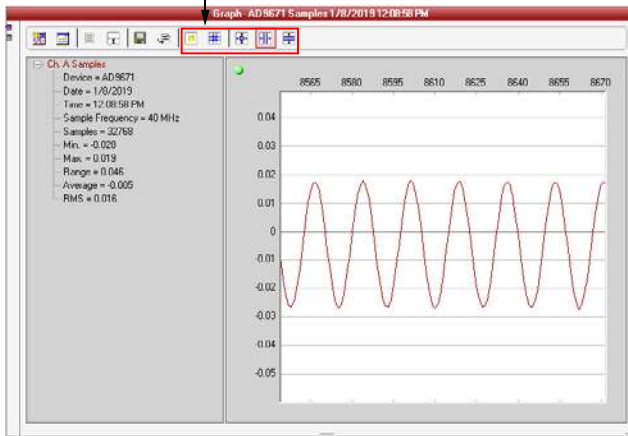
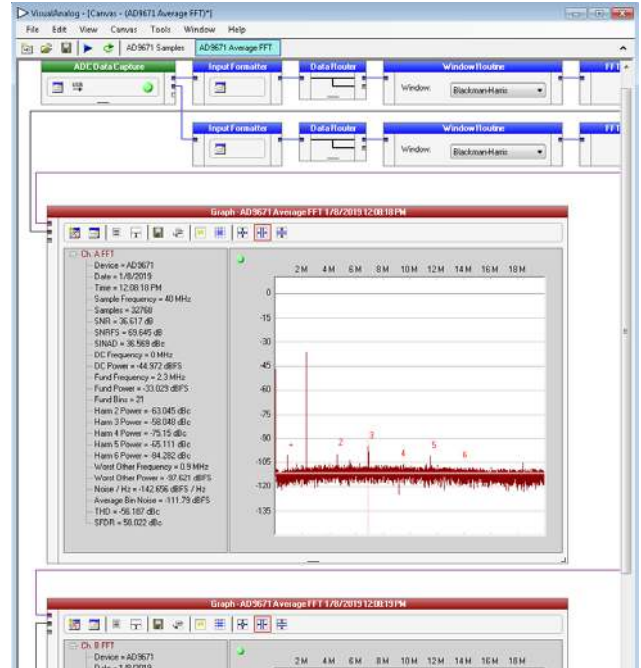

Figure 13. Sample Canvas Output Window
Figure 14. Average FFT Canvas Output Window
3. Click the blue arrow on the upper left side of the **VisualAnalog** toolbar shown in Figure 14 to run the canvas once, or click the green repeat button to set the canvas to run continually. The **Samples** canvas produces two windows that show 8192 time domain samples for Channel A and Channel B, as shown in Figure 13.
- The AD9671_Average_FFT.vac canvas is set up for running and calculating fast Fourier transform (FFT) as shown in Figure 14. The average count is set to five, which means the canvas either needs to be run five times, or left in continuous run mode. The results in Figure 14 show the shaping of the noise floor as a result of the analog filters and the digital high-pass filter.